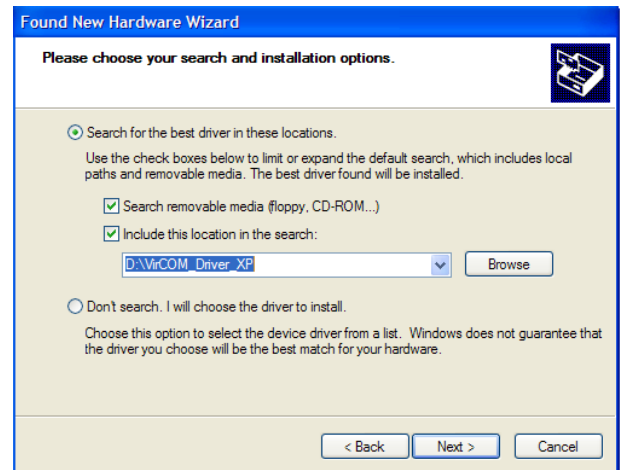

Figure 4. Search for Driver Window
- c. Select **Browse my Computer for Driver Software**. The window shown in Figure 4 appears.
The following window opens (see Figure 4).
4. Select **Search removable media (floppy, CD-ROM)** and **Include this location in the search** (see Figure 4). Use the **Browse** button to locate the **Windows XP and VISTA** or **Windows 7 (64 bit)** folder in the VirCOM\\_Driver\\_XP folder downloaded from the ADE7953 evaluation board Web page.